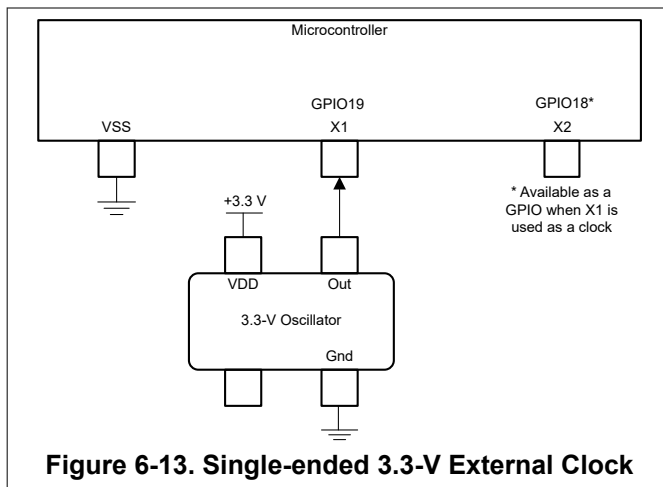

Figure 6-13. Single-ended 3.3-V External Clock
- A single-ended 3.3-V external clock. The clock signal should be connected to X1, as shown in Figure 6-13, with the XTALCR.SE bit set to 1.